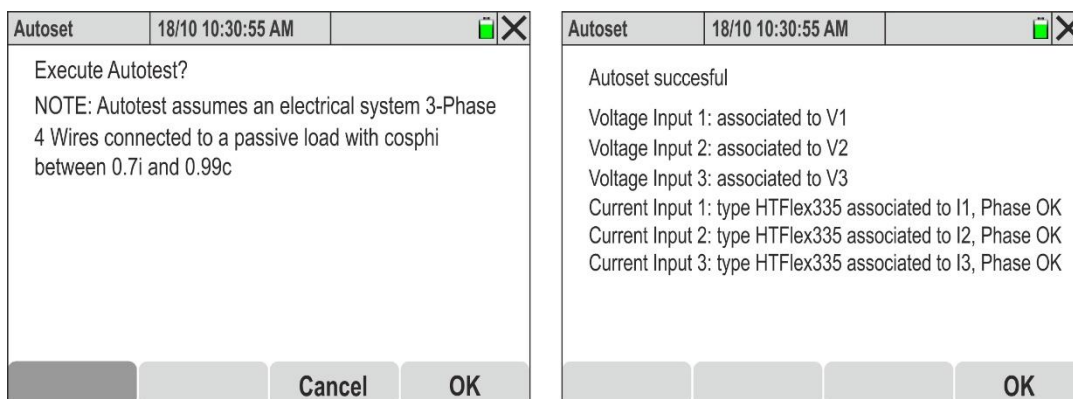

Fig. 71: Autoset execution without connection errors
3. Touch the "Autoset" key. The screen in Fig. 71- left side (relating to a Three-Phase 4 Wires system) is shown on the display
5. Touch "OK" to confirm. → The function is executed and after a few moments the screen in Fig. 71 – right side is displayed if the **Autoset is correct**. The following parameters are checked: